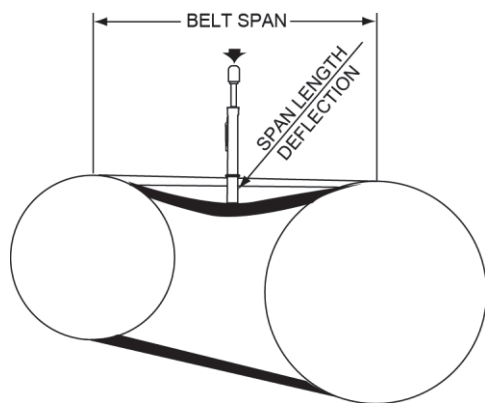

FIGURE 37 - BELT TENSIONING
1. Measure the belt span as shown in *Figure 37* on page 53.